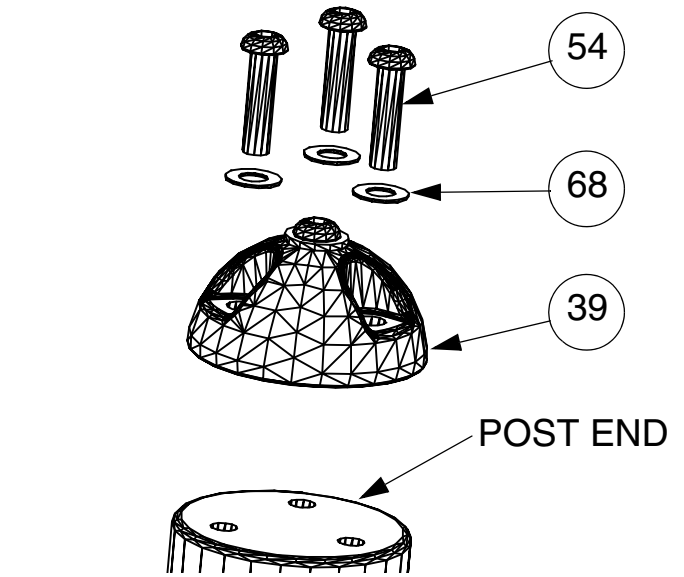

FIG.61
- 70) Attach Endcaps to top of appropriate Legs using 3 off M10 x 40 Resistorx bolts (item 54) and M10 Shockproof washers (item 68). Fully tighten bolts to a torque setting of 20-25Nm. See FIG.61.